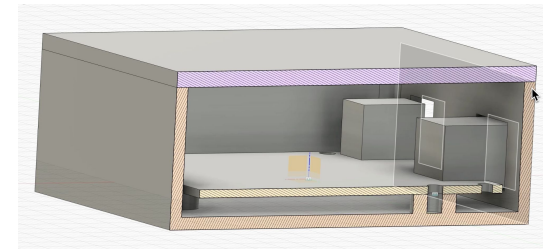

Figure 1.2
- When you display your analysis, the purple area will appear, representing the lid (see Figure 1.2).